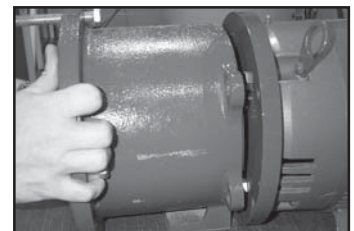

figure 3
7. Slide the motor adapter (item 9) over the drive hub and attach it to the motor flange. Install (4) supplied 3/8-inch hex head cap screws (item 16) and torque evenly to 35 ft-lbs (47 N-m) (see figure 3).